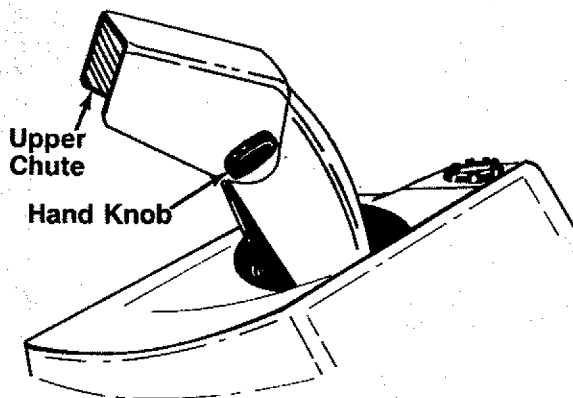

FIGURE 5.
- To adjust, loosen the hand knob on the side of the discharge chute. See figure 5.